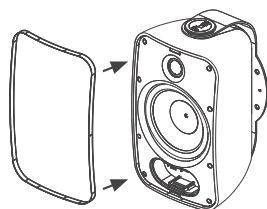

FIGURE 11:
9. Fit the grille onto the speaker by aligning the edges of the grille with the groove of the speaker face perimeter and pressing firmly until it is snugly in place.. (see figure 11).